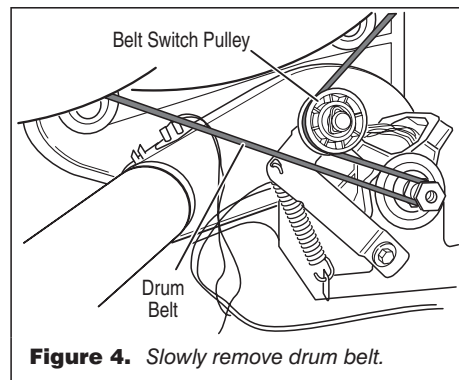

Figure 4. Slowly remove drum belt.
5. Check the belt switch and drive motor. Access the belt switch and drive motor by removing the back panel. See Removing the Back Panel, page 8. Slowly remove the drum belt from the spring-loaded belt switch pulley, gently letting the belt switch pulley down. See figure 4.